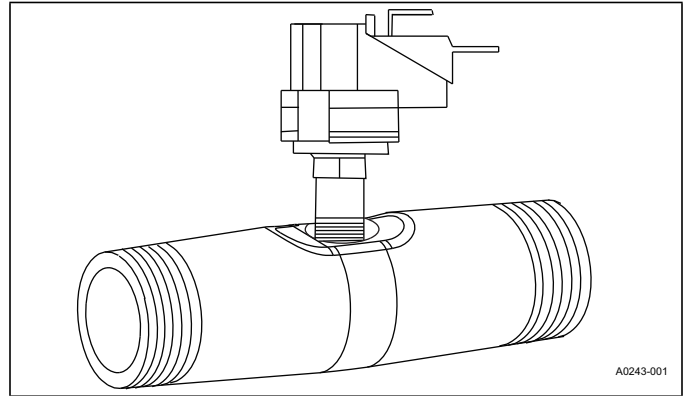

FIGURE 1: Tapped Gas Pipe Nipple
10. Rotate the tapped gas pipe nipple a 1/4 turn so the pressure switch is positioned on top of the gas pipe. Refer to Figure 1.